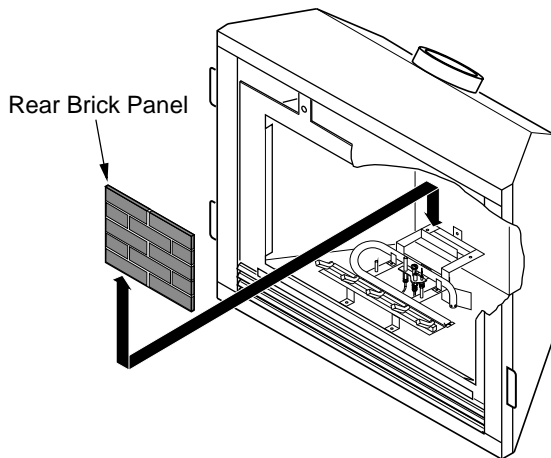

Figure 43 - Installing Rear Brick Panel
- Install rear brick panel first. Rest bottom edge of panel on back edge of grate (see Figure 43).